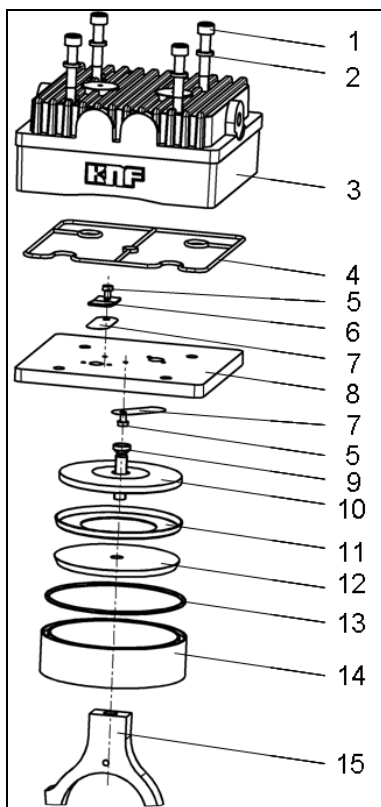

Fig. 6: NPK 050:
** According to Fig. 6.
2. Mark the position of head plate (Fig. 6/3), intermediate plate (8) and pump housing relatively to each other by a drawing line with a felt-tip pen to ensure proper assembly.
*according to Fig. 6